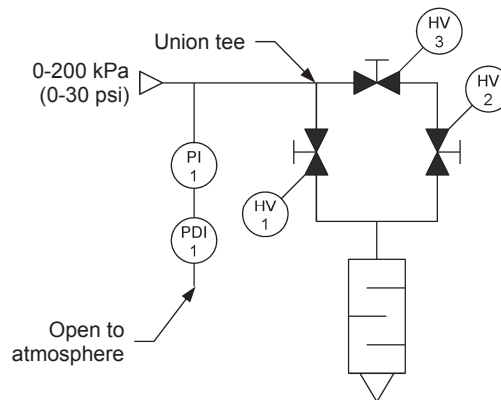

Figure 3-18. First setup (closed valves shown in black).
4. Use plastic tubing to connect the equipment as the piping and instrumentation diagram (P&ID) of Figure 3-18 shows. Table 3-2 lists the equipment that is required for this exercise.
11. Reconnect the pressure gauge and DP transmitter according to Figure 3-18, if necessary.